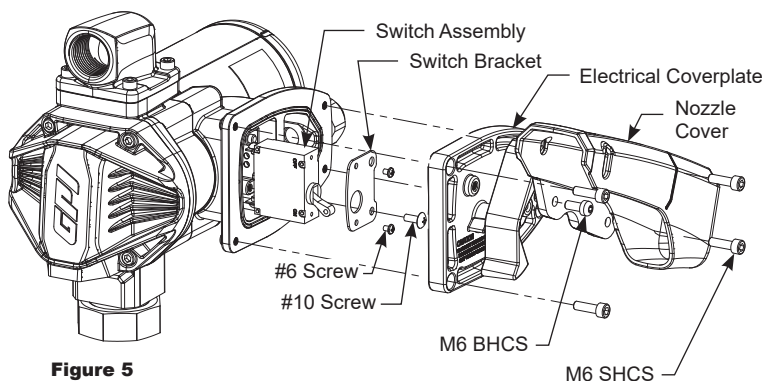

Figure 5
4. Remove the (4) M6 SHCS and electrical coverplate from the motor housing.
5. Remove the (1) #10 truss head screw and switch bracket with switch assembly (see Figure 5).
7. Unscrew both blade terminals and remove red pump wires from the back of the switch (see Figures 5 and 6). Take note of which wire is attached to each blade terminal for reinstallation.